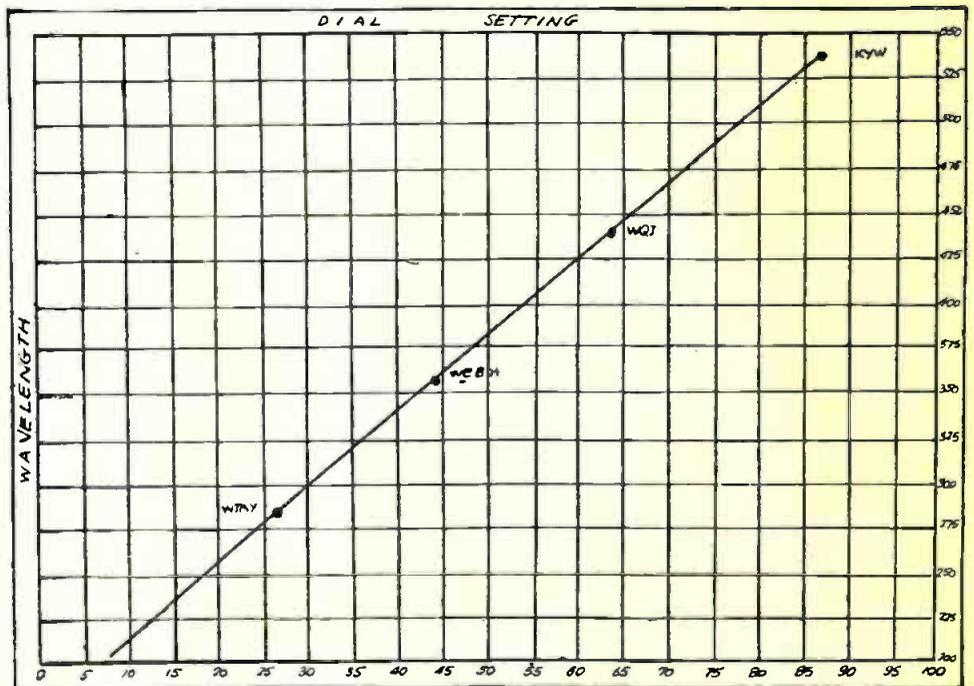

Figure 3.
The first step in this procedure is to rule out a sheet of paper as illustrated in Figure 3. This is what is called a calibration graph, and will give us a wavelength curve for the coil and condenser combination we are using.
**N**OW you have probably wondered why we need a buzzer on the thing. Simple—. Now suppose we had calibrated the Station Finder dial to the curve shown in Figure 3. Again suppose we were going to listen for Europe with a non-regenerative set, with which we were not acquainted